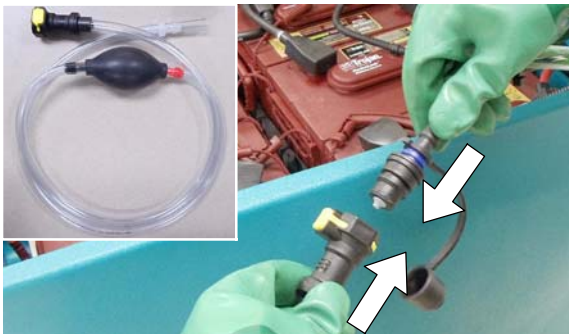

FIG. 120
3. Locate the battery fill hose coupler inside the battery compartment. Remove the dust cap and connect the hand pump hose (Figure 120).